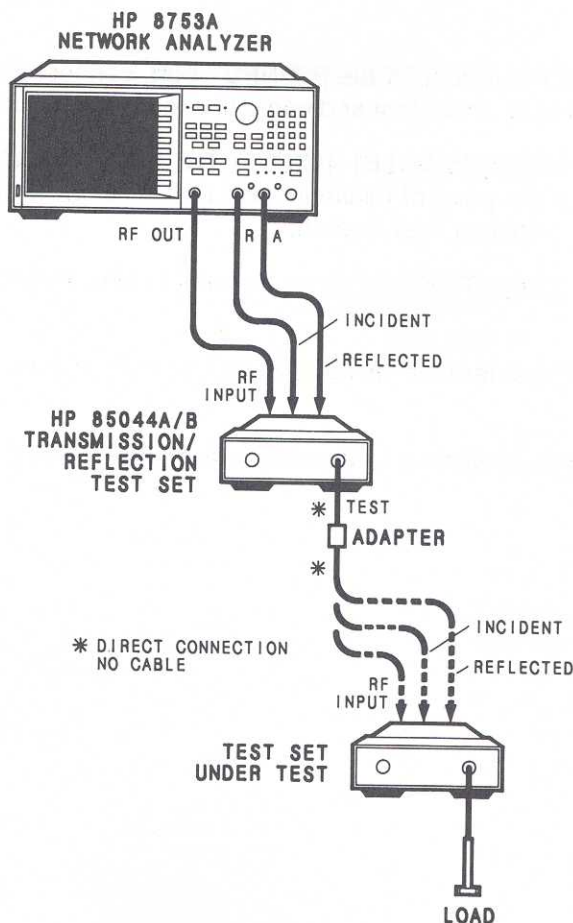

Figure 4-3. Port Match Test Setup.
5. Connect a  $50\Omega$  load on the RF INPUT and REFLECTED ports of the HP 85044A/B under test as shown in Figure 4-3. In addition, to test the port match of the